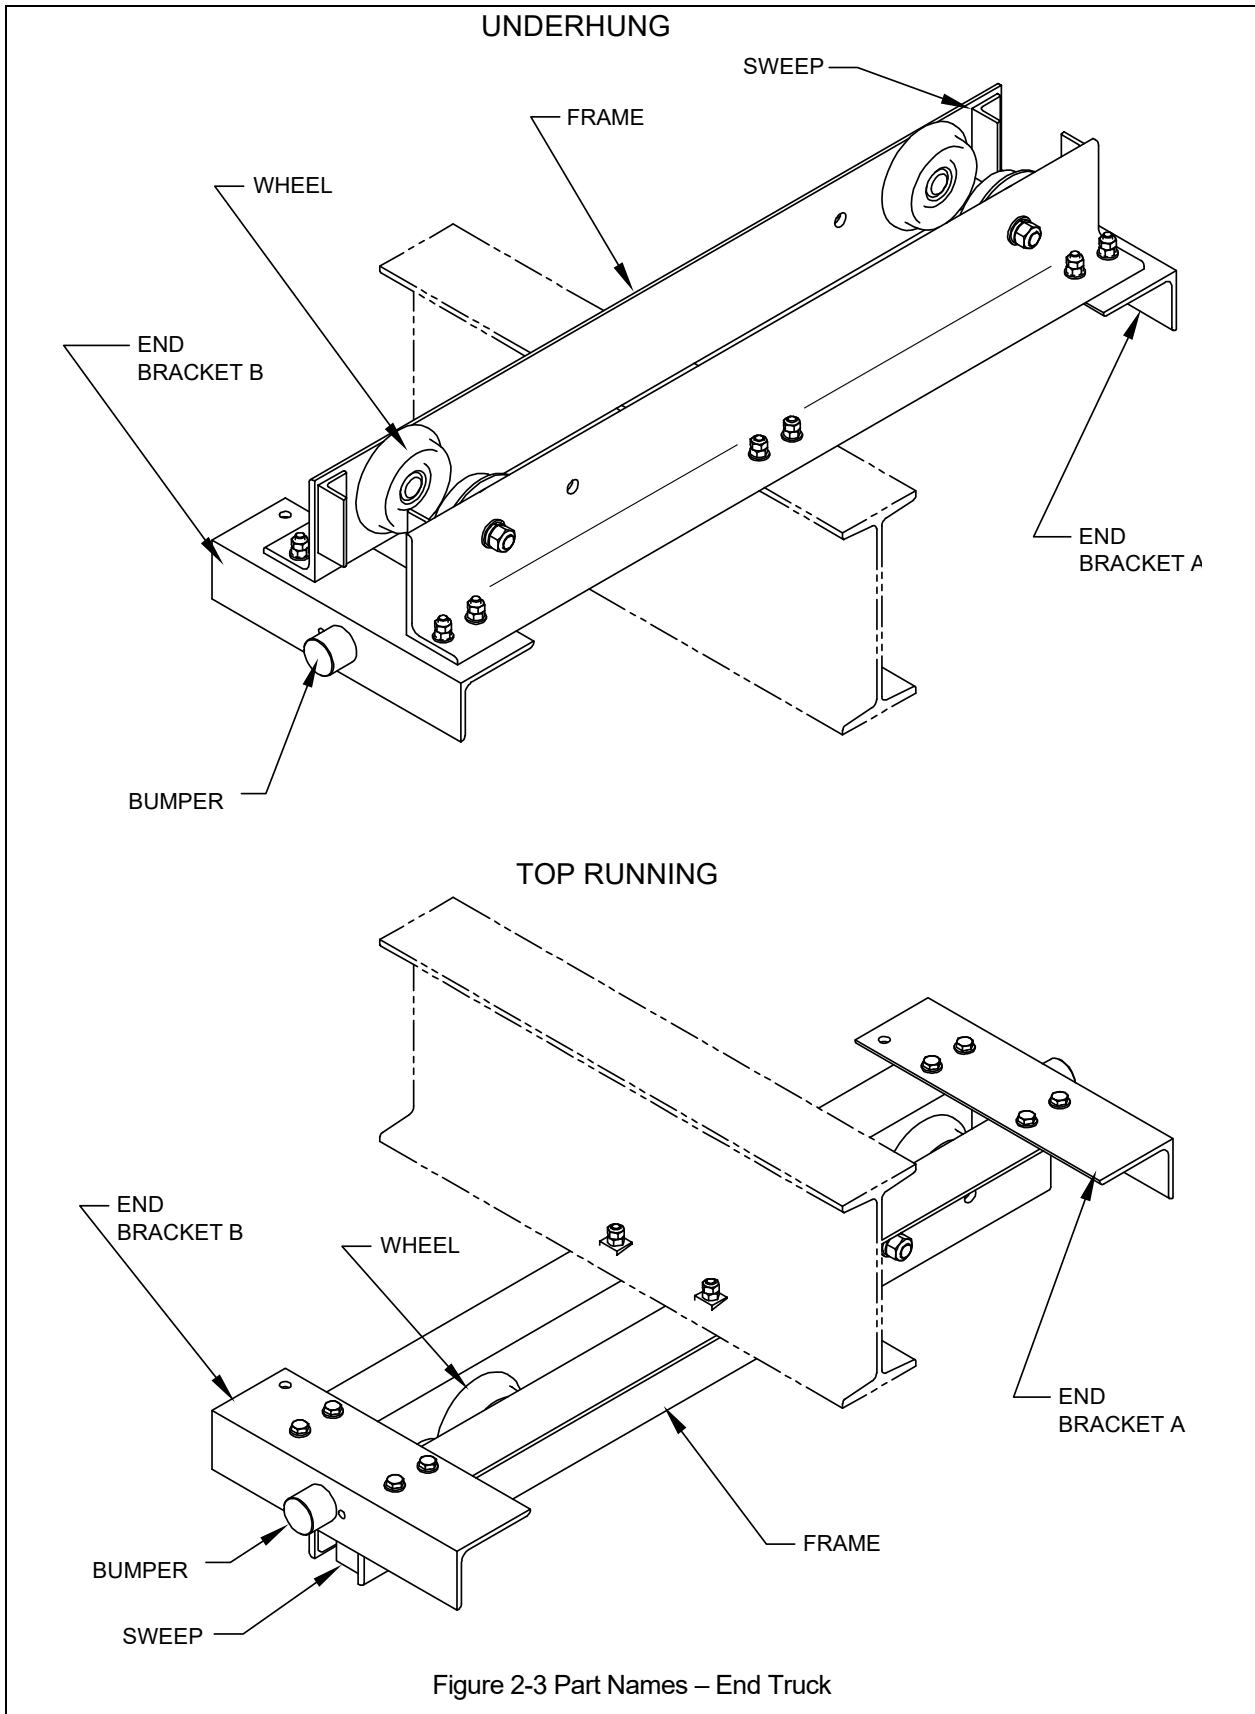

Figure 2-3 Part Names – End Truck
- Refer to Figure 2-3 and Figure 3-9 and assemble the frames and end brackets together. As you tighten the fasteners (don’t fully tighten yet – this comes later) measure the actual “H” dimension in accordance with Figure 3-8. Verify that the measured “H” dimension and the calculated “H” dimension are the same.